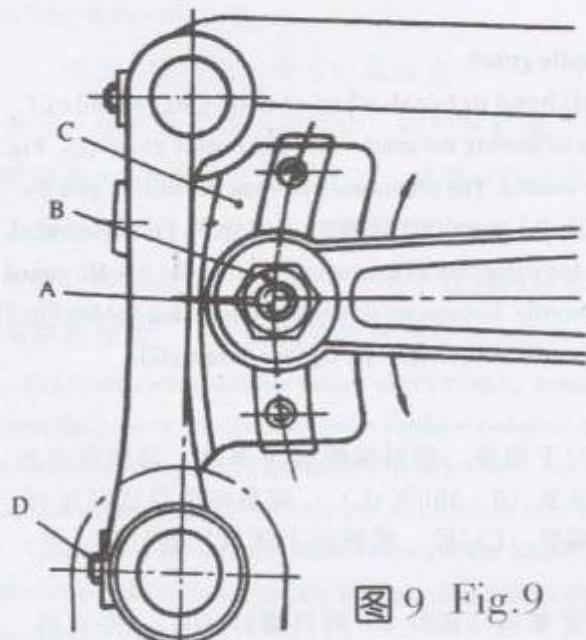

图 9 Fig. 9
送料牙在针板牙槽内的两侧面间隙不对称时，拧板牙架座(图9，C)两只螺钉(D)，左右移动牙架座至要求位置后再拧紧螺钉(D)。
If feed dog are not in the center in the throat plate slots, Loosen screws rear in the feed locker (C, Fig. 9),move the feed locker right or left as required. Then retighten screws(D).
针距长短的调节，是通过牙架座（图9， C）扇形槽中的针距调节螺钉（A）的上下移动来实现的。下降螺钉（A）使针距加大，升高则缩短针距。调节时拧松螺母（B）、上下移动螺钉（A）至需要的针距后再固紧螺母（B）。（自动型式的机器需卸下罩壳时再调节）
The length of the stitch can be adjusted by raising or lowering the stud(A)in th segment slot of the feed locker (C, FIG. 9). Lowering the stud will shorten the stitch. After loosening nut(B), Stud(A) can be movedaccordingly. When the desired stitch length is obtained, Retighten nut(B). (For automatic style machines the cloth plate should be remoedo to adjust)